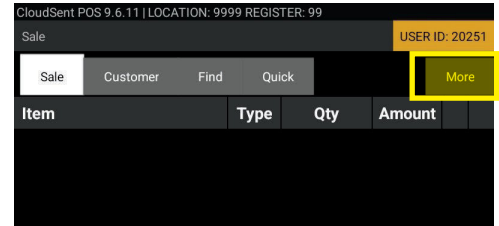

Figure 51
1. On the Sales screen, tap More > Quick Add List (See Figures 51 & 52).